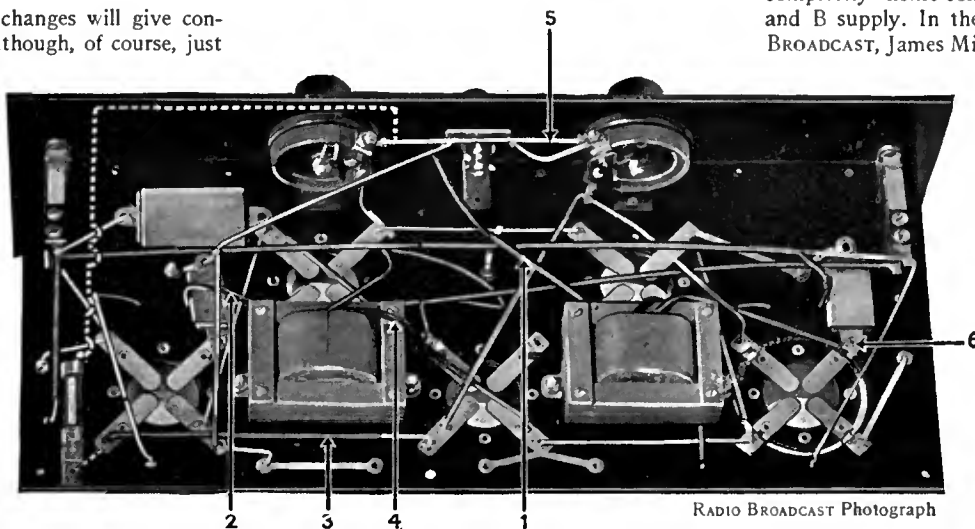
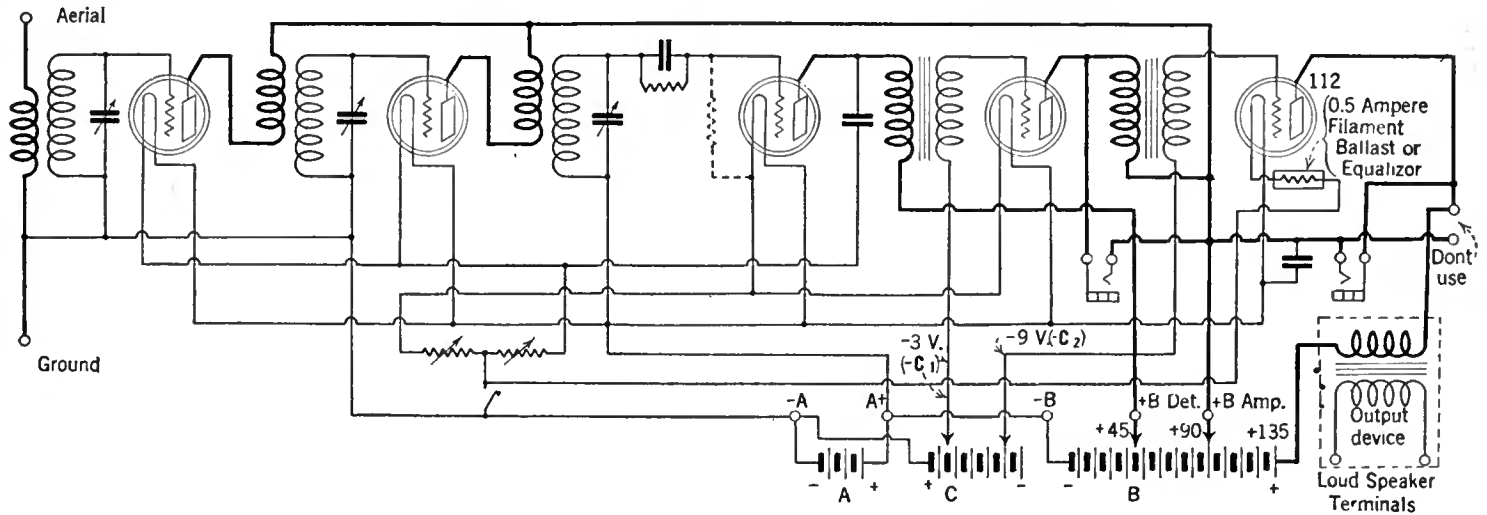

FIG. 1
FIG. 4
To install a power amplifier of the single-stage type, it is merely necessary to plug the input cord of the power amplifier into the jack marked "Phones" on the front panel of the Freshman receiver. When thus connected, the last audio stage in the set is replaced by the power amplifier. The - B, + B Det., and + B Amp. posts on the back of the power unit are connected to the corresponding posts on the receiver sub-panel. The tube should be removed from the last audio socket (left-hand rear socket) in the set. Slightly better results may often be obtained if the set is first removed from the cabinet and the wire marked 4 in Figs. 1 and 2, cut. This is the flexible lead from the plate prong of the first audio socket to the primary of the second audio transformer. The ends of the cut wire should be covered with tape in order to prevent them from touching any other bare wire or metal part, and thus causing a short-circuit.
The circuit diagram of the receiver before any changes are made. The arrows correspond to those in Fig. 1
removed from the cabinet, turn it upside down as shown in Fig. 1. The rear edge of the shelf should be supported so that the set will not rest on the coils.
The necessary changes are to add to the points numbered 5 and 6 in Figs. 1 and 2, leads of flexible rubber-covered wire. These two leads should be left several feet long since they must make connection to the power amplifier.
1. The grid return lead from the secondary of the first audio transformer should be cut at the point indicated by arrow No. 1 in Figs. 1 and 2 and a flexible lead soldered to this terminal of the transformer. This lead will supply C battery to the first stage and it is indicated as -C1 in Figs. 4 and 5.
2. The grid return lead from the secondary of the second audio transformer should be cut at the point indicated by the arrow No. 2, and a flexible lead also soldered to this transformer terminal. This lead supplies C battery to the power tube. It is marked -C2 in Figs. 4 and 5.
3. Completely remove the lead marked No. 3 in Figs. 1 and 2 by cutting it free at the socket prongs to which it connects.
0.5-ampere tube) and connect as indicated by the dash lines in Fig. 1, to the wire joining the two rheostats.
The B and C batteries shown in Fig. 4, are of correct value when the last, or power tube is of the 112 type and the other tubes are of the 201-A type. While the 112 is not capable of delivering to the loud speaker anything like the same amount of undistorted energy as the 171 power tube, it is to be recommended in preference to the 171 where B batteries are employed as the source of plate potential. The 171 requires a heavier plate current than the 112 and as a result is not so economical when operated from dry B batteries.
The new detector tubes, such as the 200-A type, the CeCo H, etc., will be found very advantageous in a number of cases. On signals of normal strength no difference is noticeable in volume when using one type or the other, but these new detector tubes are more sensitive to weak signals than the 201-A tubes and, as a result, will permit the reception of signals too weak to be understandable with the 201-A. The only change necessary in order to use one of the special detector tubes in the old model Freshman receiver is to increase the detector plate voltage and change the grid leak connection. By referring to Fig 4 the grid leak can be seen in its usual place, while the location of the leak when using a new detector is indicated in dotted lines. The easiest method of making this change is to purchase a grid leak and mount and fasten it to the sub-panel near the detector socket. One end connects to the grid and the other end connects to the negative filament terminal of the detector socket. The optimum plate voltage for a